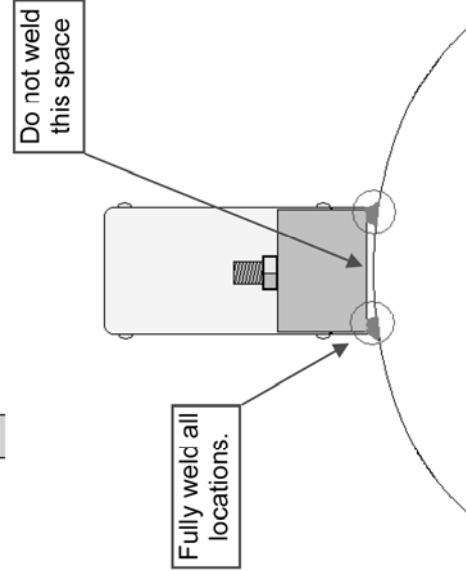

Fig 4-3
- D. Remove the straps and fully weld all locations. **See Fig 4-3.**